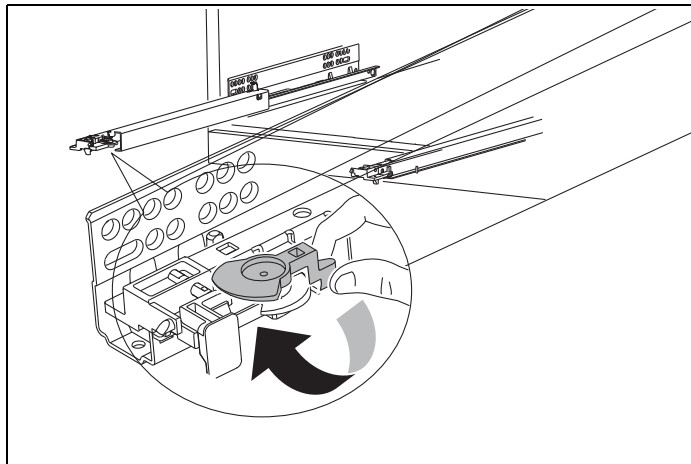

Fig. 10
- To lift the appliance in the front (max 0.07"), turn the latch as shown in Fig. 10 .